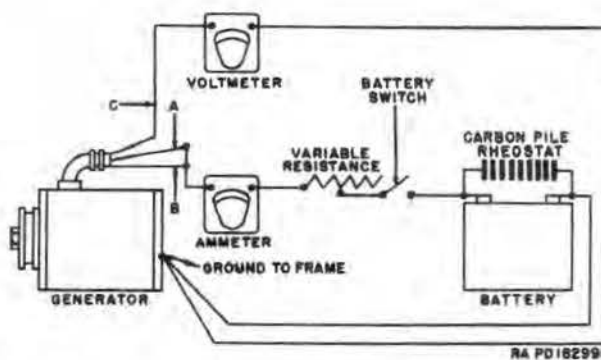

FIGURE 6. GENERATOR OUTPUT TEST WIRING DIAGRAM.
- (2) Connect 1,000 ampere range of ammeter into circuit, close battery switch and note ammeter reading. Open switch and connect ammeter to lower range as explained in subparagraph b above.
- (3) To measure field coil current close the battery switch and adjust variable resistor until voltage is the value specified (24 volts). The field current must be between the limits specified (24 volts and 0.85 to 0.89 amps). If the current is not within these limits faulty field windings or connections are indicated. Repair connections or repair or replace the housing and winding assembly.
d. Generator Output (fig. 6). Measure generator output as described in paragraph 39b.
c. Incorrectly installed wiring.	c. Check internal and external wiring (figs. 6 and 32).